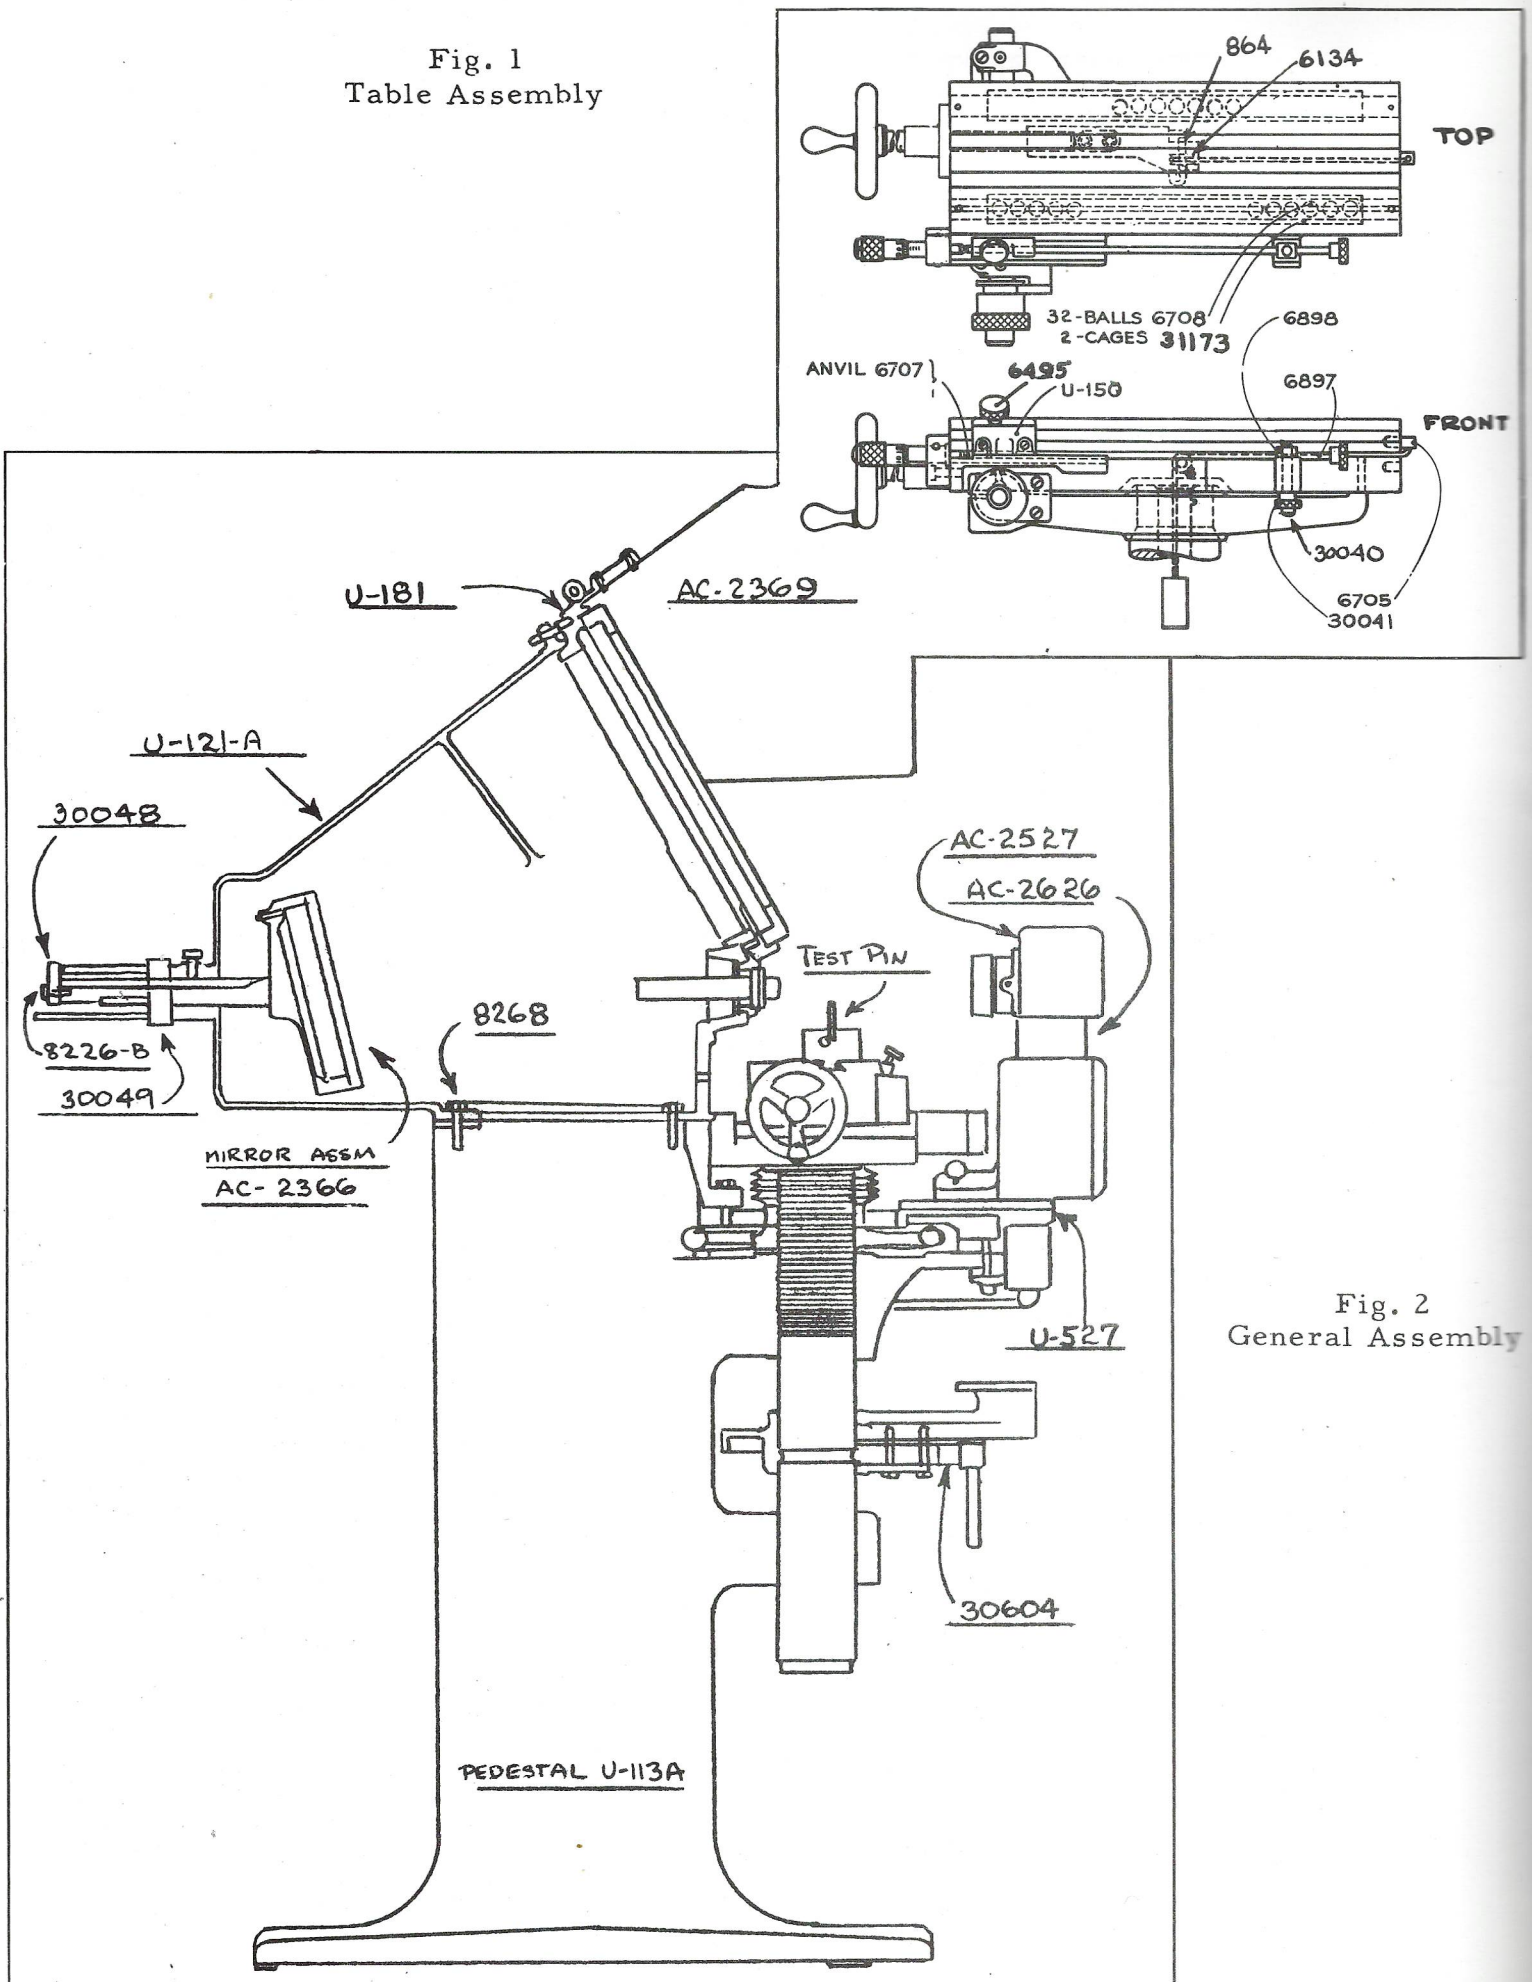
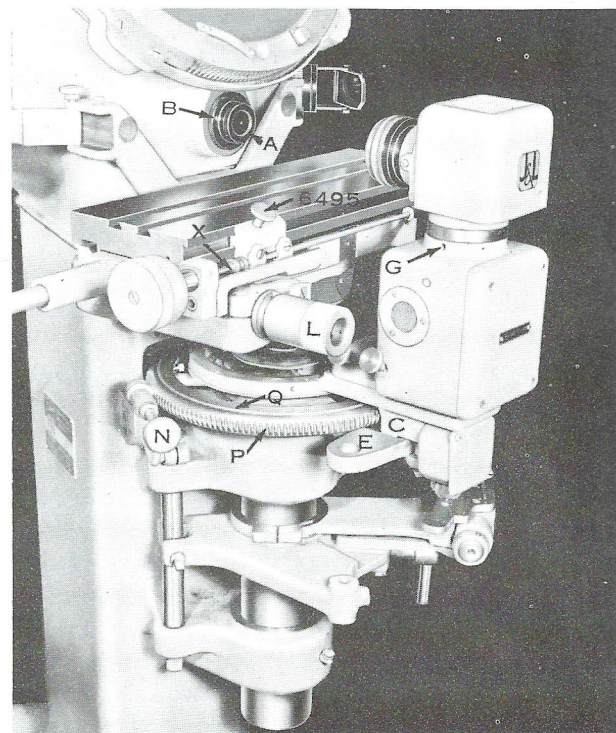

Fig. 2
Fig. 5
Mount the hood U-121-A on the pedestal and fasten it securely with the three cap screws 8268, Fig. 2. Place the triangular board in the bottom of the hood to prevent dust from getting into the hood. Assemble the visor AC-2369 onto the lower chart ring U-181 with the hinge pin.
Remove the stop block 30048, Fig. 2 and 3, from the end of the mirror shaft. Inspect the mirror assembly to make certain that the front surface of the mirror is securely located against the three pads on the front of the mirror cell, and place the mirror assembly into position as shown in Fig. 2. Slide the stop
collar assembly 30049 onto the shaft and fasten the stop block 30048 into position with the cap screw 8226B. Fig. 2 and 3.
Place the chart ring in the lower Chart Ring U-181. Install the glass screen in place with the frosted surface toward the operator. Screw lens bushing B into hood casting U-121-A. (Fig. 5). Place lamphouse pedestal and lamphouse assemblies A-C-2626 and A-C-2627 on lamphouse pedestal bracket U-527 (Fig. 2).
Screw the light aligning diaphragm A into the lens bushing B, in the lens opening of the hood. Fig. 5.
The alignment of the right angle lines on the screen with the top of the table is accomplished by means of the aligning fixture (pin block) supplied with the machine. The aligning fixture is placed on the table top with its tongue in the slot of the table. Move the table vertically until the image formed by the top of the vertical pin of the aligning fixture is approximately on the horizontal center line of the chart. Move the table in or out by means of the focusing knob (L) (Fig. 5) until the image becomes sharply defined.
To adjust the helix parallel to the axis of the projection lens, on a machine that is not equipped with the Table Angle Attachment, loosen the 30604, (Fig. 2) binder screw and swivel the table slowly until the shadow of both flanks is sharply defined. Then tighten screw 30604.
The table having 4" of travel is mounted on balls. The base supporting the table is provided with a 1" micrometer graduated in either .0005" or .0001" (metric micrometer graduated in either .01 m/m or .005 m/m). Along the front of the table bed and in line with the micrometer is a V trough for supporting end measuring bars (X in Fig. 5). On the front of the table is an adjustable anvil in axial alignment with the micrometer anvil. A counterweight pulls the table with constant pressure in the direction of the micrometer. The micrometer is used when decimal measurements up to an inch are to be measured. Standard end measuring bars, or blocks permit more rapid measurement of definite increments.
The table can be locked to prevent lateral movement by tightening the knurled nut 30041 (Fig. 5) on the guide which encases the body of the lateral adjusting screw.
To make lateral measurements, the shadow of the object to be checked is properly aligned with the centerline on the chart or screen. The necessary measuring bars, or blocks, and end measuring micrometer are placed in the trough. Loosen the screw 6495 (Fig. 5) and slide the anvil stop U-150 toward the indicator pushing the measuring bars before it, until contact is made with the indicator spindle. Lock in this position with the clamping screw. Set the indicator at zero. Then, either the end measuring micrometer is closed the desired amount, or an end measuring bar, equivalent in length to the distance over which it is desired to measure, is removed from the trough and the table is moved until the shadow of the part is again in proper position on the chart. At this point the indicator reading should again be zero if the dimension being measured is correct. If the shadow of the new tooth (or new portion of the object), which is brought before the lens is to the right or left of the centerline on the chart, it indicates error. The amount of error can be measured with the end measuring micrometer or the indicator by moving the table until the shadow coincides with the centerline.
To make vertical measurements, loosen screw in graduated ring (Q). Disengage worm N, (Fig. 5 and front cover) and use the handwheel to bring the object shadow approximately to the horizontal center line on the screen. Worm (N) is then engaged with the handwheel for accurately matching the shadow to the line.
shadow of the second position of the object is approximately aligned with the horizontal center line on the screen. Engage worm (N) (Fig. 5) for final adjustment. The amount of vertical displacement may be read directly on the graduated handwheel ring.